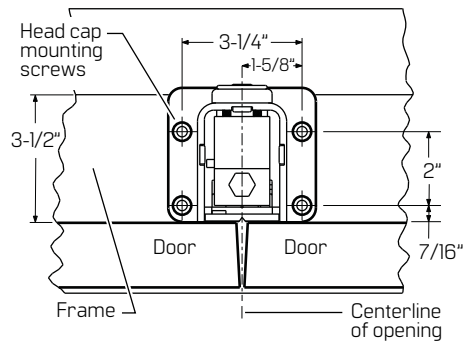

Figure 5 Installing head cap (underside view)
- Center head cap on frame between and flush with closed doors. See **Figure 5**.